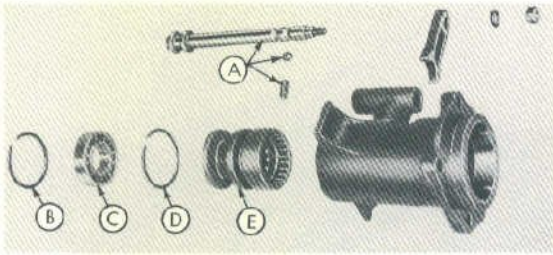

Fig. 14
- Remove the shift rail, interlock ball and spring (A-Figure 14).
- Remove the snap ring (B-Figure 14) from the rear of bearing support.
- Lift out the bearing (C-Figure 14).
- Remove the snap ring (D-Figure 14) which is located in front of the rear bearing.
- Remove the clutch sleeve (E-Figure 14) from the bearing support.